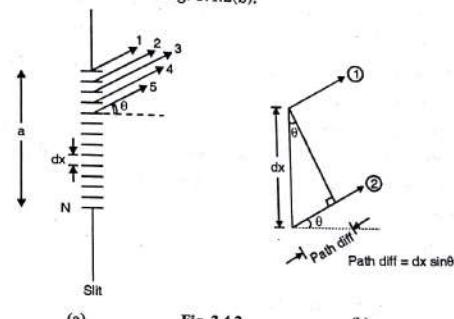

Fig. 3.4.2 (a)
- Consider the given slit to be divided into N parallel slits, each of width dx . See Fig. 3.4.2(a).
- One of such slits is shown in Fig. 3.4.2(b).
- The path difference between the rays diffracted from its upper and lower edges is $dx \cdot \sin \theta$ and hence the corresponding phase difference between them is, (refer Fig. 3.4.2(b)).
- Thus at point P, N phasors with same amplitude, same frequency and same phase difference $\Delta\phi$ between the adjacent members combine to produce the resultant disturbance. Fig. 3.4.2 shows the vector addition of such N phasors.